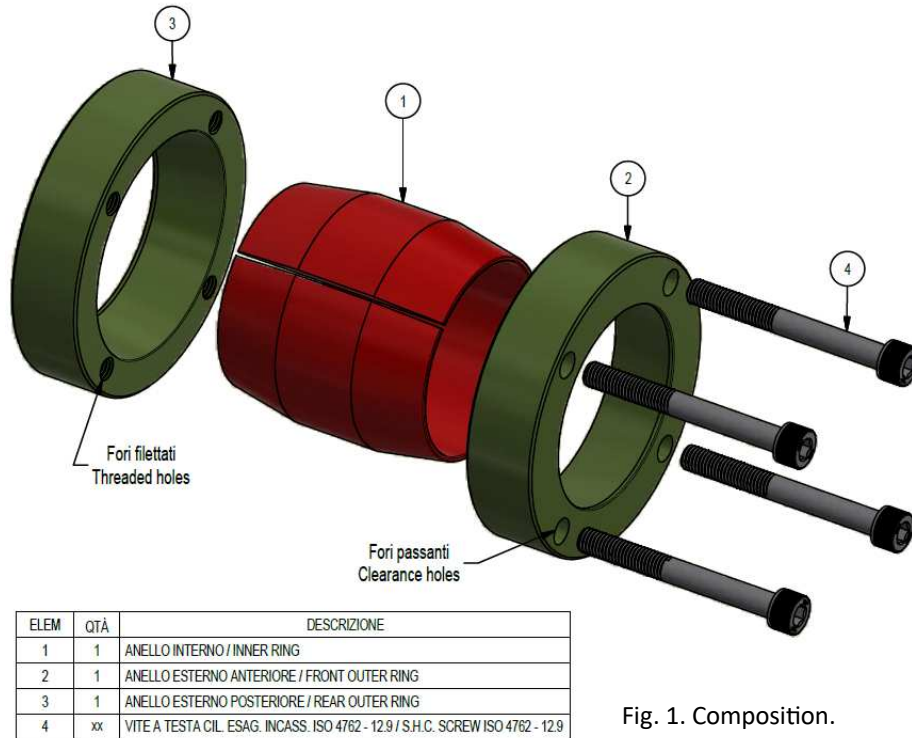

Fig. 1. Composition.
- Rigid Couplings MAV 1004 are supplied ready for installation. They are composed of (fig. 1):